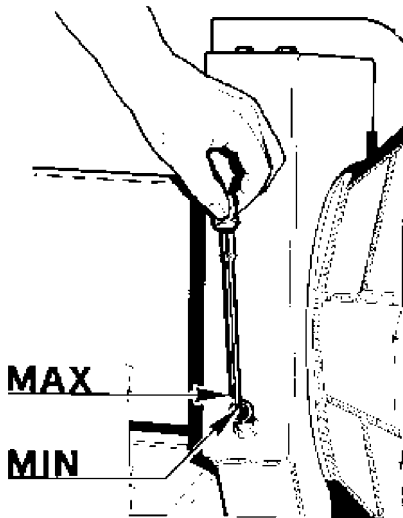

Fig.53
2. Once a month check the oil level of the speed reducer (fig.53). The chuck arm should be completely lowered when the check is performed.